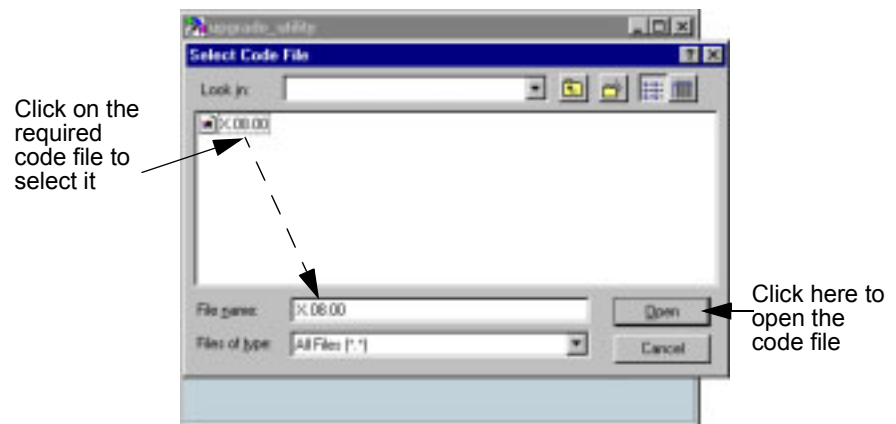

Figure 6-2. Select Code File
2. Click on the **Begin Download** button to open the “Select Code File” window shown in Figure 6-2.